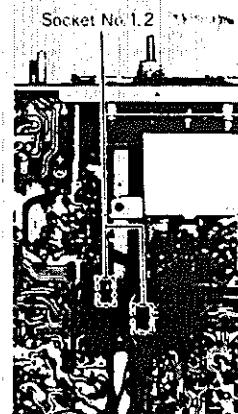

Fig. 7-2
4. Remove the two (2) sockets (nos. 1 & 2) for the frequency counter, as shown in fig. 7-2.